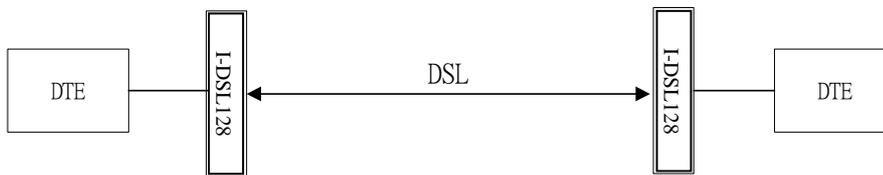

Figure 2 *I-DSL128* leased line application
- The *I-DSL128* can serve as a 64Kbps limited distance modem for leased line application (Figure 2).